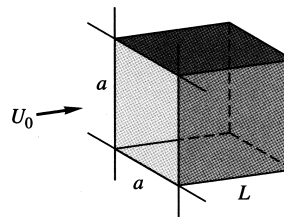

Fig. P7.28
**7.28** Flow straighteners are arrays of narrow ducts placed in wind tunnels to remove swirl and other in-plane secondary velocities. They can be idealized as square boxes constructed by vertical and horizontal plates, as in Fig. P7.28. The cross section is  $a$  by  $a$ , and the box length is  $L$ . Assuming laminar flat-plate flow and an array of  $N \times N$  boxes, derive a formula for (a) the total drag on the bundle of boxes and (b) the effective pressure drop across the bundle.
**7.29** Let the flow straighteners in Fig. P7.28 form an array of  $20 \times 20$  boxes of size  $a = 4$  cm and  $L = 25$  cm. If the approach velocity is  $U_o = 12$  m/s and the fluid is sea-level standard air, estimate (a) the total array drag and (b) the pressure drop across the array. Compare with Sec. 6.6.